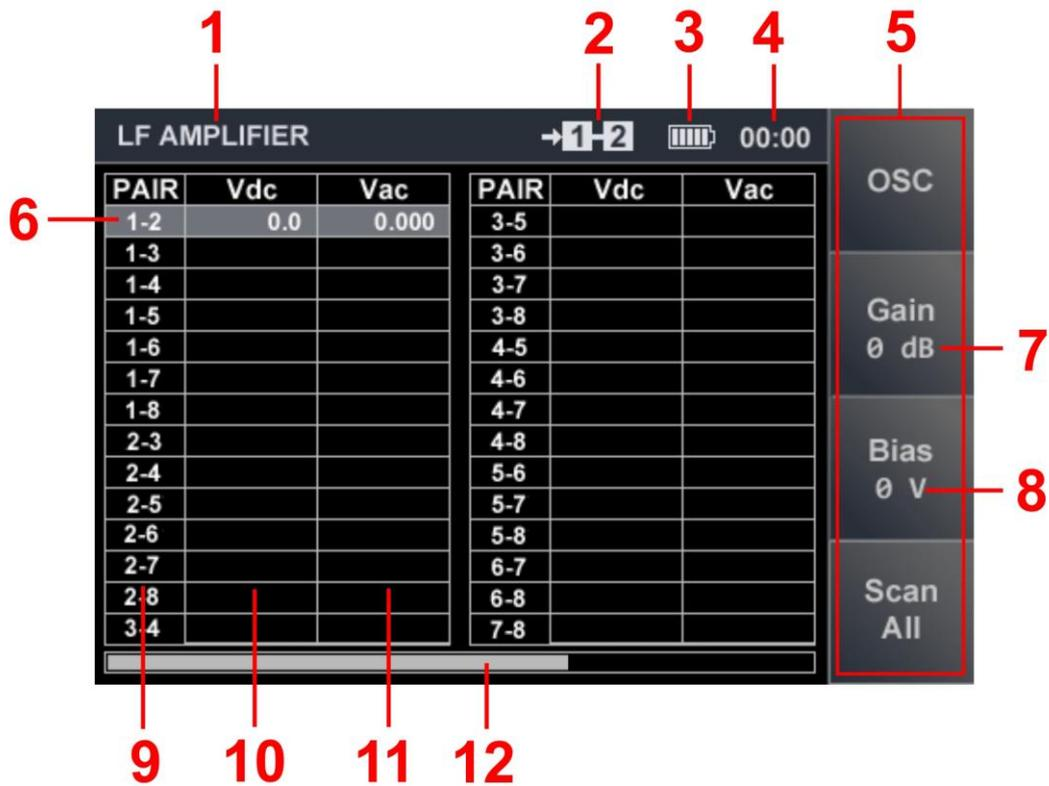

Fig.37
LFA main menu is shown in Fig.37.
In Fig.37:
2. By means of the     buttons to set gain value in dB (0, 5, 10, 20, 30, 40, 50, 60) which will be displayed on the indicator (Fig.37, item 7).
2. By means of the  or  buttons set bias voltage value (from -26 V to +26 V with a step of 2 V) which will be displayed on the indicator (Fig.37, item 8).